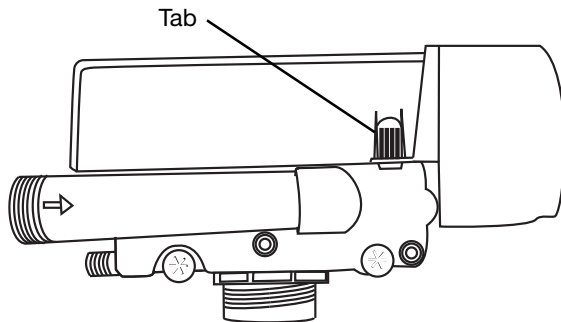

Figure 17
- Remove the rear cover by depressing the two tabs provided on the cover, (Figure 17). Lift the front of the cover and remove to expose the valve body.